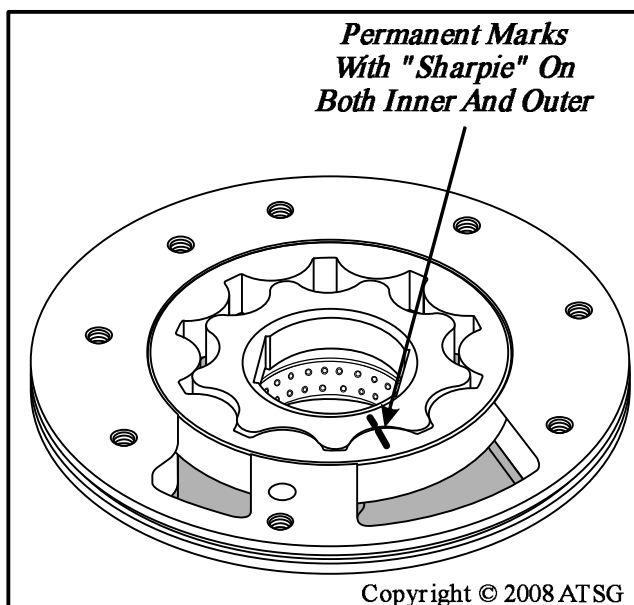

Figure 146
3. Mark the inner and outer gerotor with some type of a permanent marker, like a "Sharpie", **before removal** from the pump body, as shown in Figure 146, so that they can be re-installed with the same side facing up as original.
**Note: "Do Not" scratch or dent them for identification (See Figure 146).**